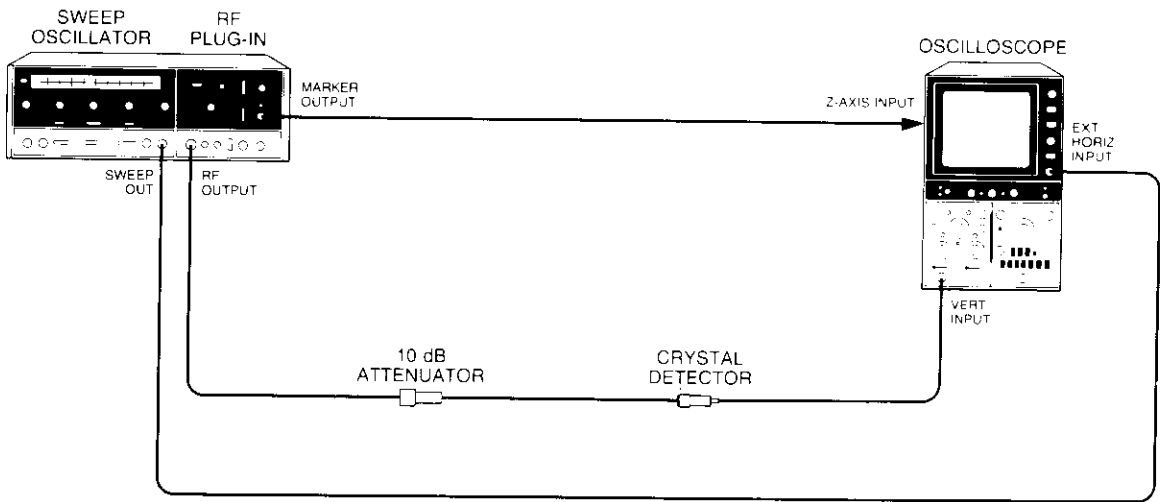

Figure 2-6. Marker Range Test Setup
- a. Connect equipment as shown in Figure 2-6. Set 8620C LINE switch to ON and allow 30 minutes warm-up time.